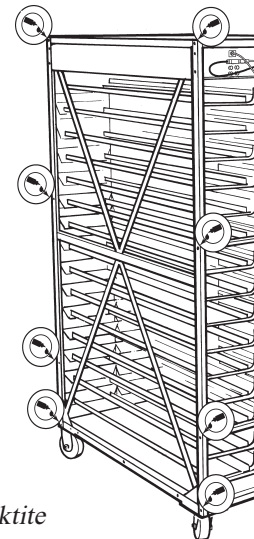

Figure 42: Application of Locktite
Step 38: When it is concluded that the rack is square and there are no points of interference with the egg trays; Locktite should be applied to the cap screws in these locations: between **both** side frame assemblies and the front rail spacers; between **both** side frame assemblies and the horizontal back rails; between **both** side frame assemblies and the bottom rail assemblies; and, between **both** side frame assemblies and the top frame assemblies (Figure 42).